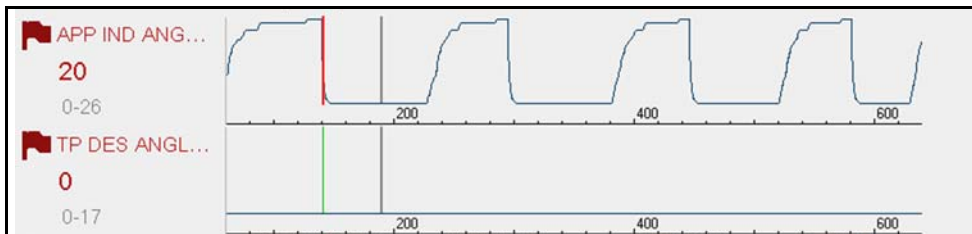

Figure 6-15 Triggers activated
- A red cursor line is displayed on the graph (Figure 6-15) of the PID with the activated trigger to indicate where the trigger occurred.